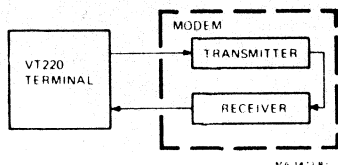

Figure 1-4 Analog Loop Test
3. Type a message on the keyboard. The data you type is looped back by the modem and displayed on the terminal (Figure 1-4). This lets you compare the received data with the transmitted data for accuracy.